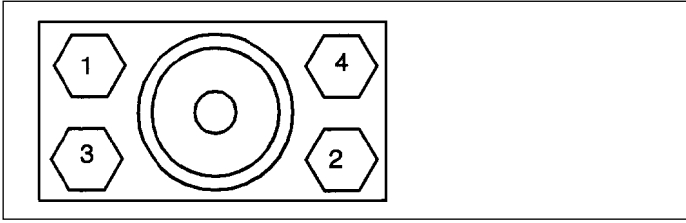

Figure 32: Connector Bolt Torquing Sequence
- Tighten all connector bolts in steps of 1.2 Nm (1 lb•ft) up to 2.8 Nm (2 lb•ft) per the sequence shown in Figure 32. For example,
- Tighten all connector bolts to 3.4 Nm (25 lb•ft) per the procedure starting on page 40. Refer to Figures 32 and 33.